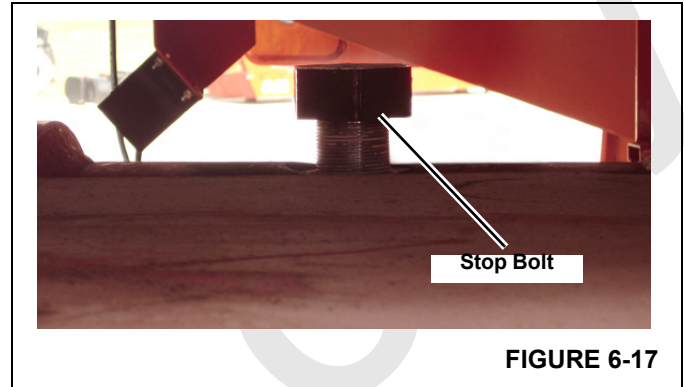

FIGURE 6-17
See Figure 6-17 through Figure 6-20 for the following procedure.
- Remove pivot pin stop bolt from top of roller assembly, (Figure 6-17).